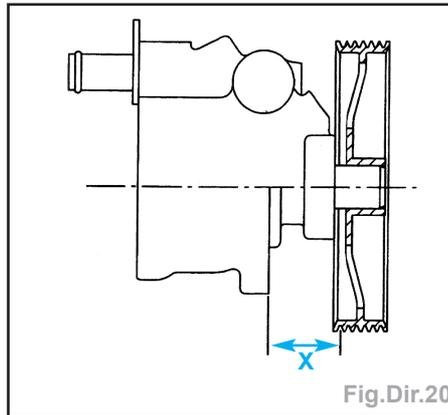

Fig.Dir.20
- respecter la cote d'emmanchement de la poulie (Fig.Dir.20),
- (X) = 31,65 ± 3 mm.